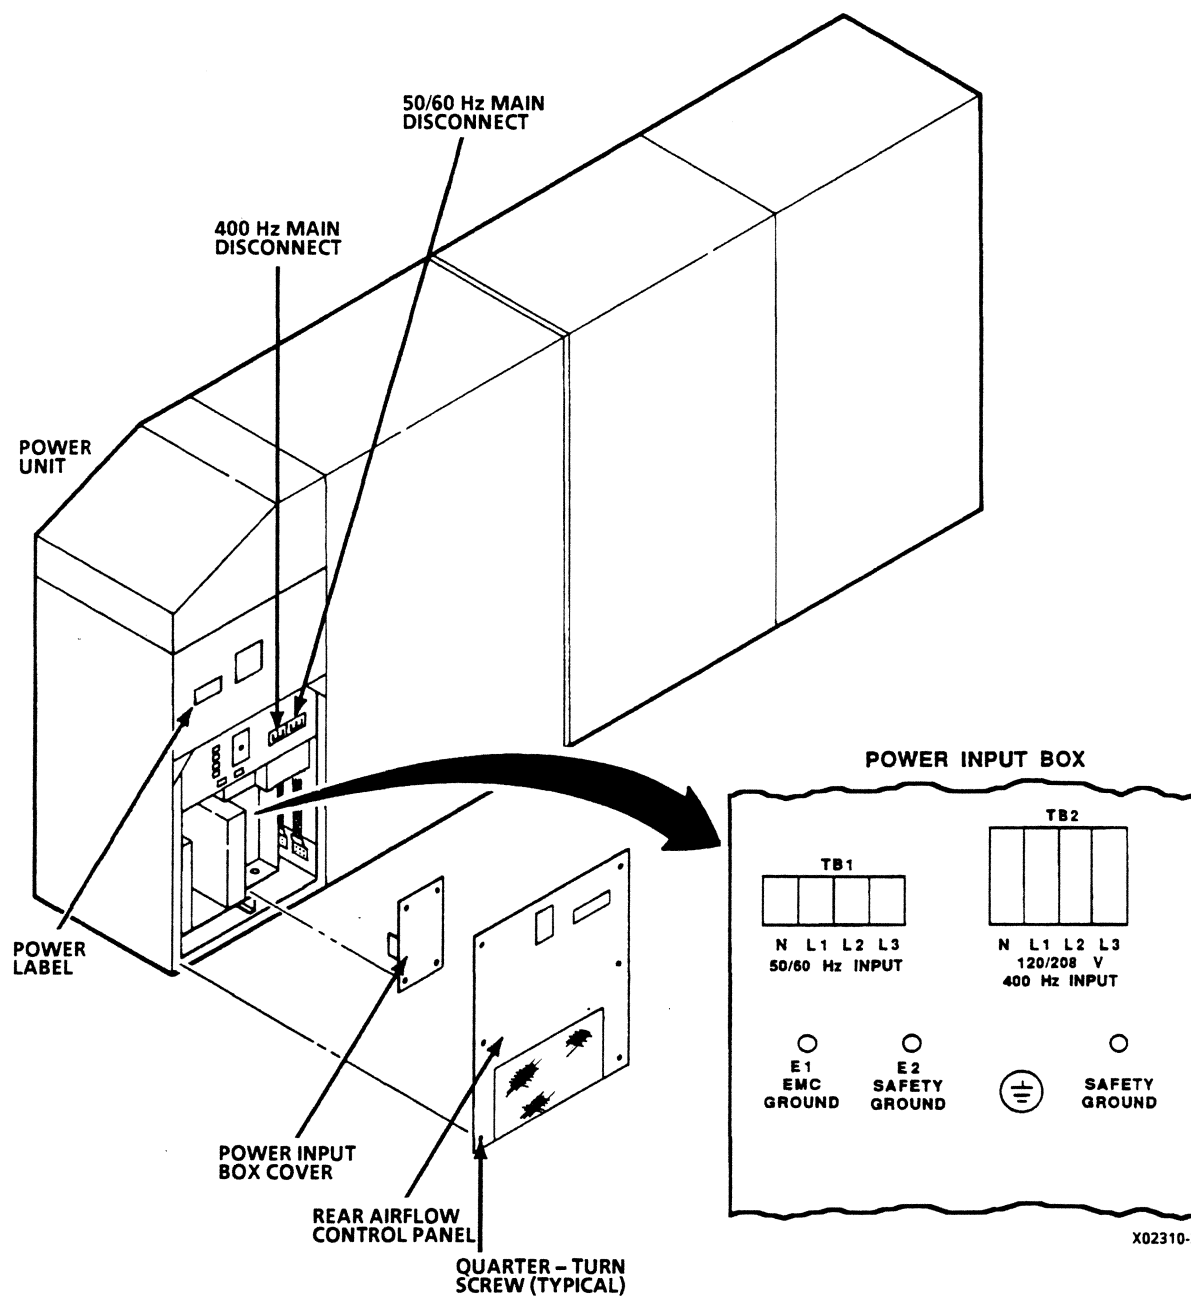

Figure 2-45. Power Label Location
- ___ 1. Check power label (figure 2-45) for correct identification of unit voltages. If label is correct, go to next procedure. If label is incorrect: